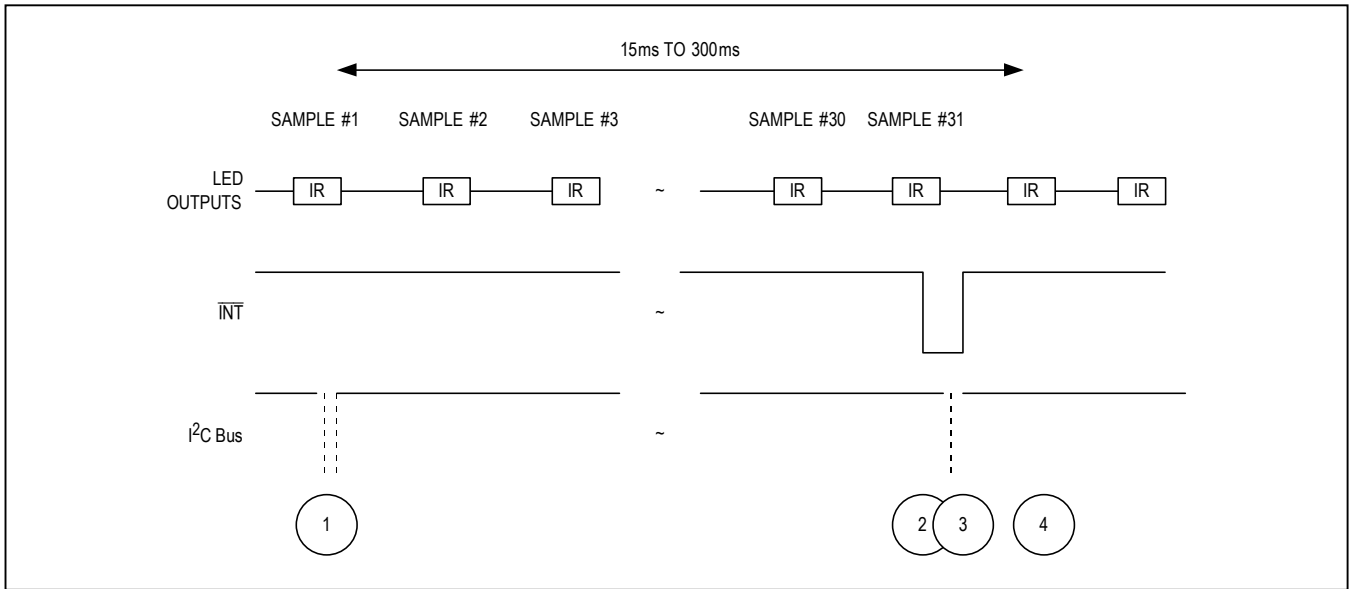

Figure 5. Timing for Data Acquisition and Communication When in Particle-Sensing Mode Using 1 LED
The internal FIFO stores up to 32 samples, so that the system processor does not need to read the data after every sample (Figure 5).
**Table 16. Events Sequence for Figure 5 in Particle-Sensing Mode Using 1 LED**